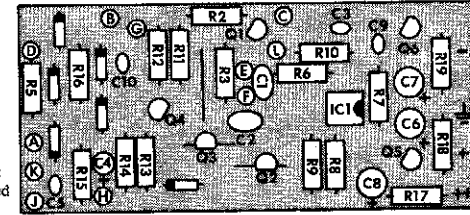

Figure 1
Solder each of the fixed value resistors in place following the parts placement designators printed on the circuit board and the assembly drawing figure 1. Note that the fixed value resistors are non-polarized and may be mounted with either of their two leads in either of the holes provided. Cinch the resistors in place prior to soldering by putting their leads through the holes and pushing them firmly against the board; on the conductor side of the board bend the leads outward to about a 45° angle. Clip off each lead flush with the solder joint as the joint is made. Note that not all of the fixed resistors are installed on the circuit board. In particular, R 1, and R 4 will be installed in later steps.
Install the transistors. Orientation of the transistors is keyed by the flat on the side of the case and should be evident from inspection of the parts placement diagram shown in fig. 1 and the parts placement designators printed on the circuit board. All semi-conductors are heat sensitive and may be damaged if allowed to get too hot during soldering. To be on the safe side heat sink each transistor lead during the soldering operation by grasping it with a pair of needle-nosed pliers at a point between the circuit board and the body of the transistor. The part type no. is printed on the case.
Install all diodes. Note that these parts are polarized and must be properly oriented in order to operate properly. Polarization of the diodes is indicated by a colored band on one end of the case. Install as shown in figure 1. The physical appearance of the device is related to the schematic symbol used on the circuit board parts placement designators is the drawing below.
- () Using one of the pieces of excess wire clipped during resistor installation form and install the jumper shown in Figure 1 and imprinted on the circuit board as a solid line.